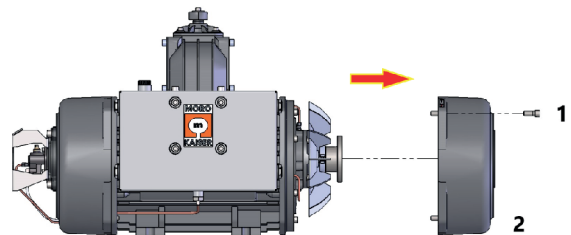

Fig. H.14 - Phase 0010
- Remove 4 M12x25 screws (**pos.1 Fig. H.14**) (chiave brugola 10) and remove the front fan cover (**pos.2 Fig. H.14**).